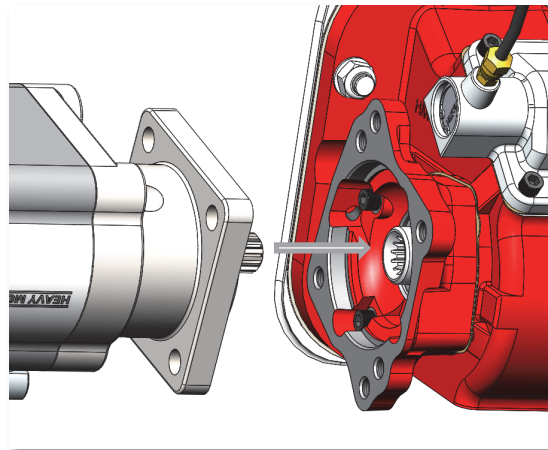

Fig. 15
2. Install the pump into the PTO (Fig. 15). After making the pump and PTO splines match, insert the pump ensuring that the contact with the flange opening is good.